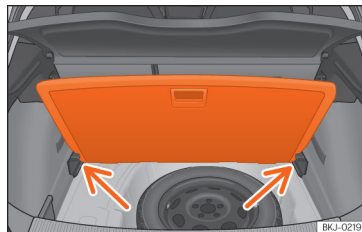

Fig. 142 Variable boot floor: tilted position.
- Rest the floor on its housings **>>> Fig. 142** (arrows).